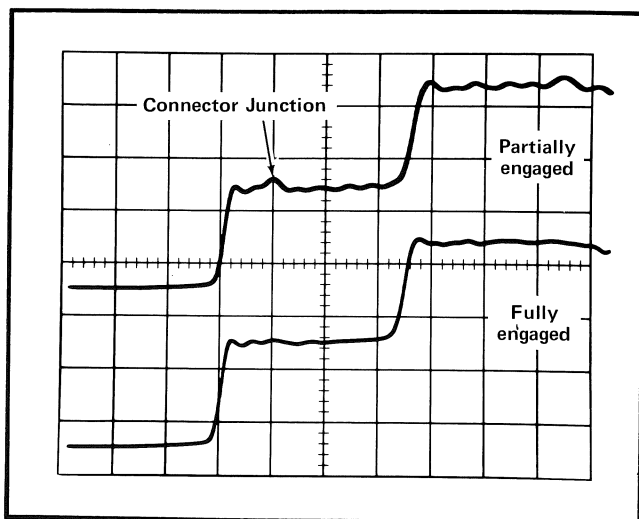

Fig. 2-1. TEST LINE connector junction location obtained by partially engaging the line to the connector.
4. Produce an inductive discontinuity at the TEST LINE connector by partially disengaging the air line connector from the TEST LINE connector. Adjust the FINE control to position the discontinuity (see Fig. 2-1) at graticule line 1 (reference), then fully engage the connector.
5. Produce an inductive discontinuity at the TEST LINE connector by partially disengaging the air line connector from the TEST LINE connector. Adjust the FINE control to position the discontinuity (a bump on the displayed waveform) at a convenient reference line and then fully engage the connector. See Fig. 2-1 which illustrates this discontinuity.
5. Produce an inductive discontinuity at the TEST LINE connector by partially disengaging the air line connector from the TEST LINE connector. Adjust the FINE control to position the discontinuity (a bump) at a convenient reference line and then fully engage the connector (see Fig. 2-1).